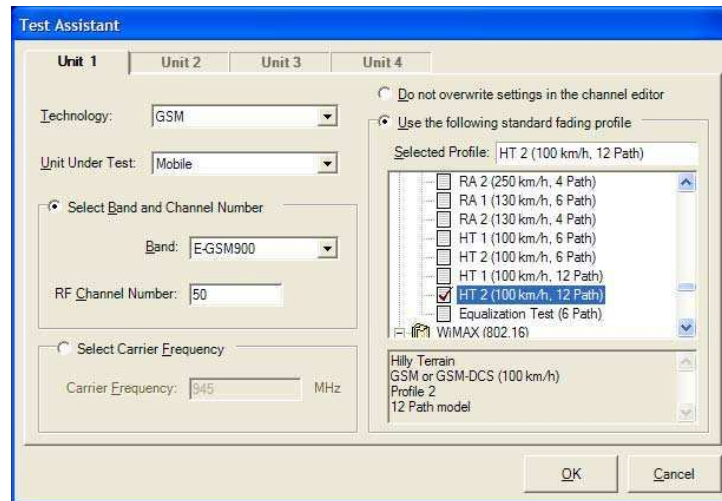

Figure 1-17: Test Assistant Window
6. Click the **Test Assistant** icon  located on the toolbar of SR5500 TestKit. The *Test Assistant* window displays, as shown in Figure 1-17.